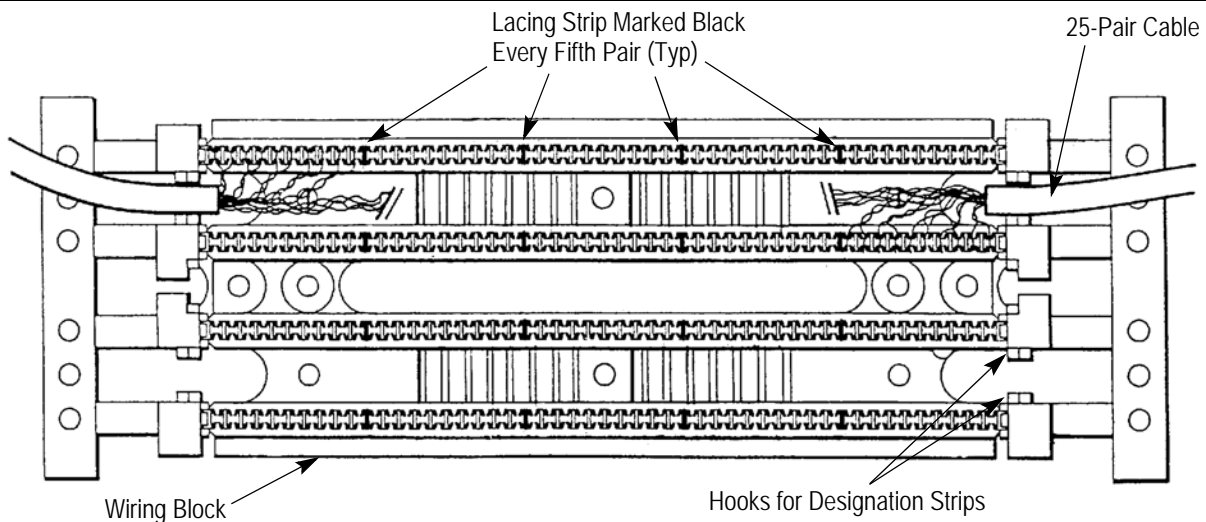

Figure 2
2. Route cables into wiring block as shown in Figure 2. Lace each pair into position in index strip slots while maintaining correct tip (white) and ring (colored) sequence. Complete lacing of index strip and inspect for accuracy (use black markings as reference).